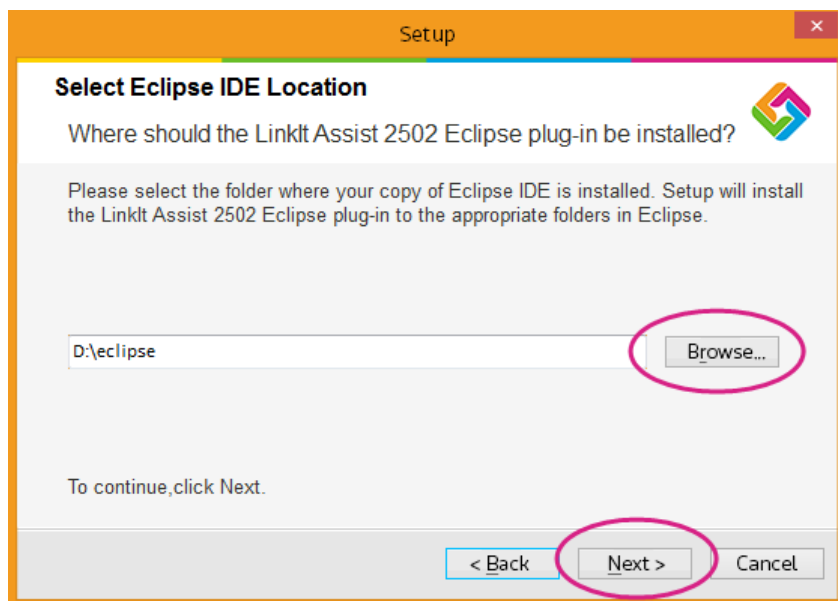

Figure 8 Selecting the folder in which Eclipse IDE is installed
- 6) In **Select Eclipse IDE Location**, click **Browse** and locate the folder in which you installed Eclipse IDE (the designated folder mentioned in 2.2, "Installing Eclipse IDE for C/C++ Developers") as shown in Figure 8.